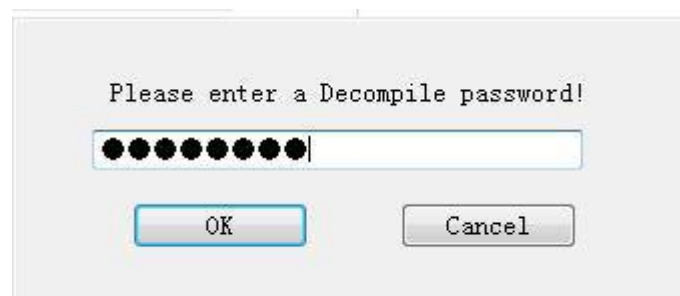

Fig. 18
② Enter the password for decompiling. The default password is “888888” which can be modified can viewed in the “General Setting” of the software, as shown in Fig. 18.